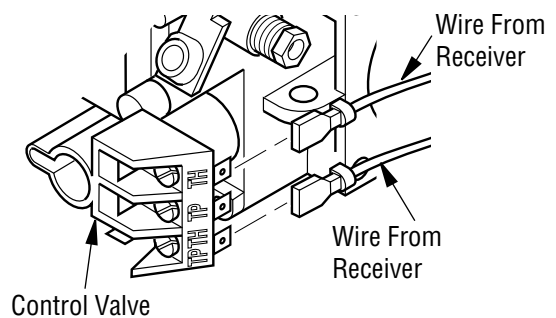

Figure 19 - Connecting Wires
7. Connect wires to control valve at the TPTH and TH locations as shown in *Figure 19*. **NOTE:** Make sure excess wire does not interfere with burner or pilot.